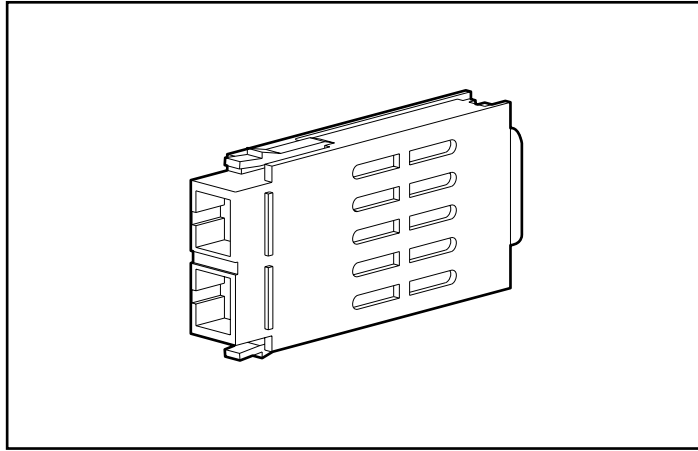

Figure 2-10. GigaBit Interface Converter Module (GBIC)
- All cables should run through the cable channel on the left side of the rack. See Figure 2-10.